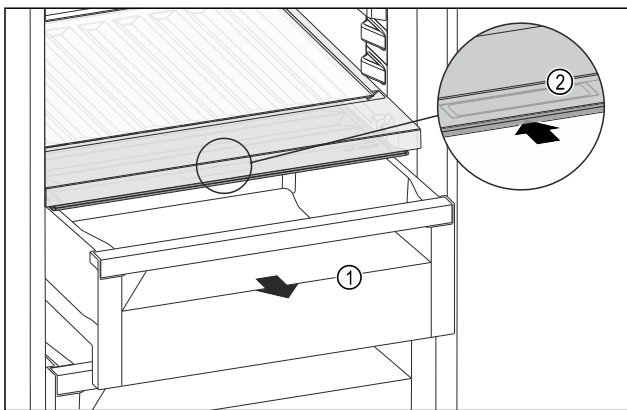

Fig. 193
- ▶ Pull out the drawer Fig. 193 (1).
- ▶ Grasp the recessed grip Fig. 193 (2) on the compartment lid and push the compartment lid backwards at the same time.